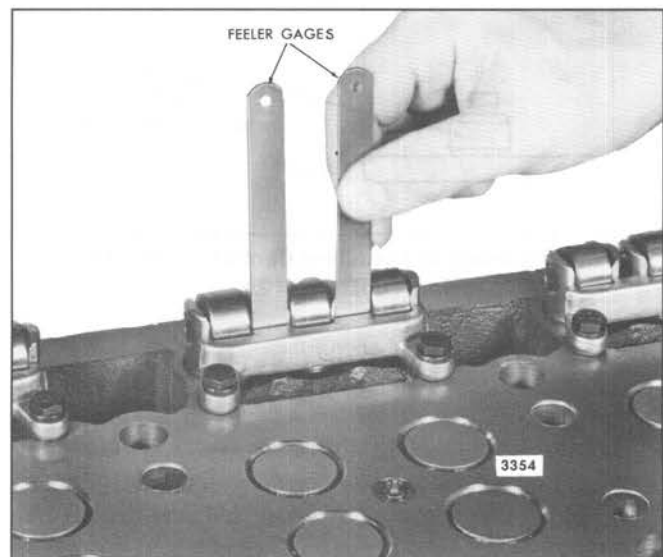
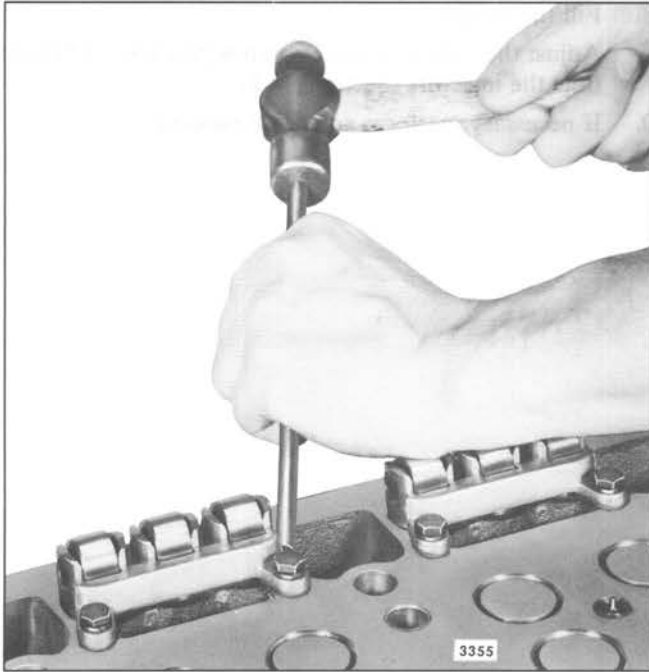

Fig. 10 – Checking Cam Follower to Guide Clearance
Fig. 11 – Adjusting Cam Follower Guide
4. Attach the follower guide to the cylinder head to hold the group of three cam followers in place. Tighten the guide bolts to 12–15 lb-ft (16–20 Nm) torque. It is important to use the correct bolt as specified in the Parts Book. The hardened bolt is necessary to obtain the proper torque and to withstand the stress imposed on it during engine operation. Check to be sure there is at least .005" clearance between the cam follower legs and the cam follower guide (Fig. 10). If there is insufficient clearance, loosen the guide bolts slightly and tap each corner of the guide with a brass rod (Fig. 11). Then, retighten the bolts to the specified torque.